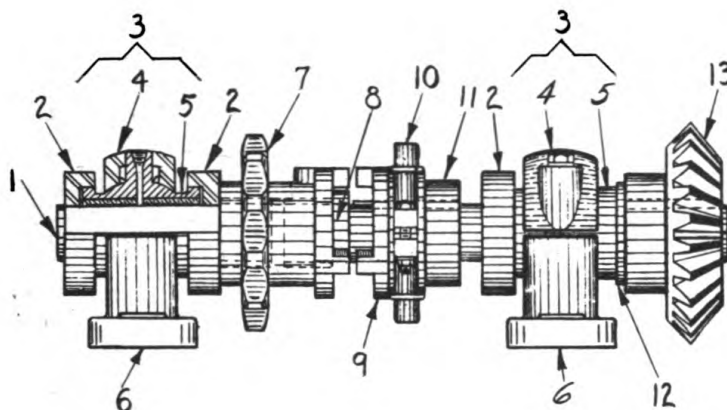

FIGURE 107
1. Loosen set screws in bevel gear hub (13), Fig. 107 remove gear.
2. Bearing (3) is loose on shaft.